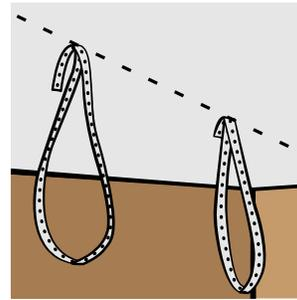

FIG. 10a
- c. Secure the Hanger Strap strapping to the wall/ceiling at each end of the strap creating open half-loops [FIG. 10a].